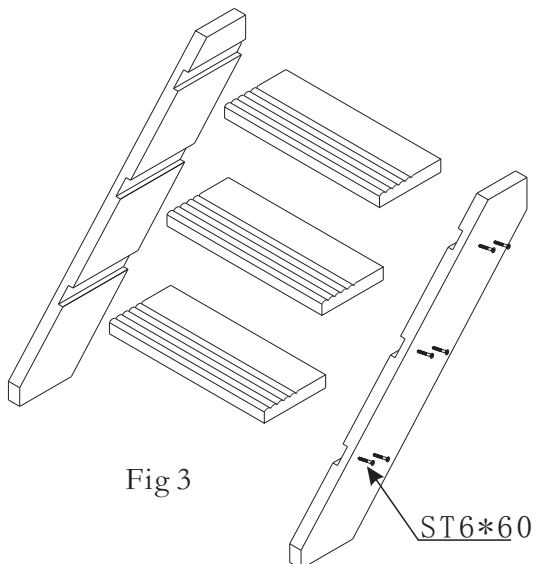

Fig 3
4. Repeat step 1 and 2 to install other barrel staves on the barrel bottom, keeping the barrel staves closely connected. (As shown in Fig 3)
4 Staves with half circle pipe hole installation as per the following drawing. (As shown in Fig 3)